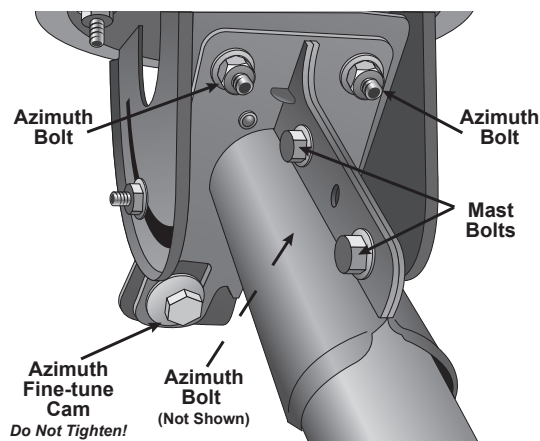

Figure 8. Fine tuning the azimuth angle
9. For the DISH Pro 500+ LNBF (Dual Band), move the temporary peaking cable from **Port 2D** to **Port 1F**. For the DISH Pro Plus 500+ LNBF and if using a meter **not** capable of selecting orbits, move the temporary peaking cable to **Port 3**. For the DISH Pro Plus 500+ LNBF and if using a meter capable of selecting orbits, continue to the next sentence. Using the azimuth fine-tune cam, fine-tune the azimuth angle to achieve maximum signal, fine-peaking on 118.7°W and transponder 13. Tighten the azimuth bolts labeled with a T and reconfirm signal (see Figure 8, page 10). Do **not** tighten the azimuth fine-tune cam (see page 10, step 5).
5. Fine-tune the azimuth angle. For the DISH Pro 500+ (Dual Band) LNBF, move the temporary peaking cable from **Port 2D** to **Port 1F**. For the DISH Pro Plus 500+ LNBF and if using a meter that is **not** capable of selecting orbits, move the temporary peaking cable to **Port 3**. For the DISH Pro Plus 500+ LNBF and if using a meter that is capable of selecting orbits, continue to the next sentence. With the peaking meter still connected, fine-tune the azimuth angle (see Figure 8). Loosen the three azimuth bolts enough so that the two azimuth plates can rotate. Using a 1/2" wrench, rotate the azimuth fine-tune cam to adjust the azimuth angle to achieve maximum signal, using the 118.7°W satellite and transponder 13. After obtaining maximum signal, tighten the three azimuth bolts labeled with a T to the recommended torque value given in Table 1 on page 9. **Do not torque the azimuth fine-tuning cam.**